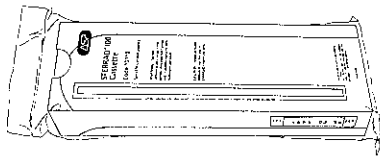

Figure 3.12 Always check the chemical indicator strip and expiration date on the hydrogen peroxide cassette package before opening.
1. Check the chemical indicator strip on the packaged cassette. The strip should be yellow (Fig. 3.12).